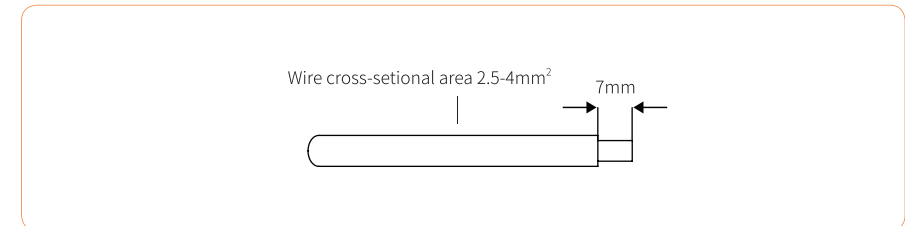

Figure 4-9
- ② Peel off the DC cable insulation sleeve for 7 mm, as shown in Figure 4-9: